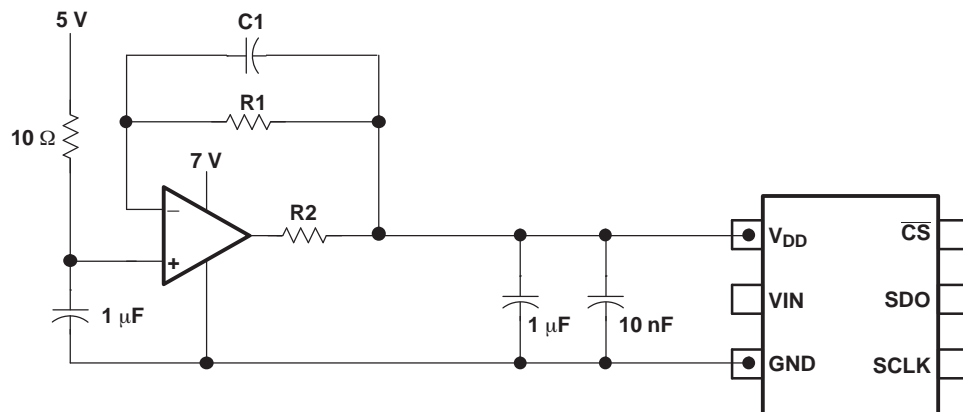

Figure 46. Buffering with the OPA735
- A low-pass filtered version of the system supply followed by a buffer like the zero-drift OPA735 can also be used in cases where the system power supply is noisy. Care should be taken to ensure that the voltage at the VDD input does not exceed 7 V (especially during power up) to avoid damage to the converter. This can be done easily using single supply CMOS amplifiers like the OPA735. Figure 46 shows one possible application circuit.